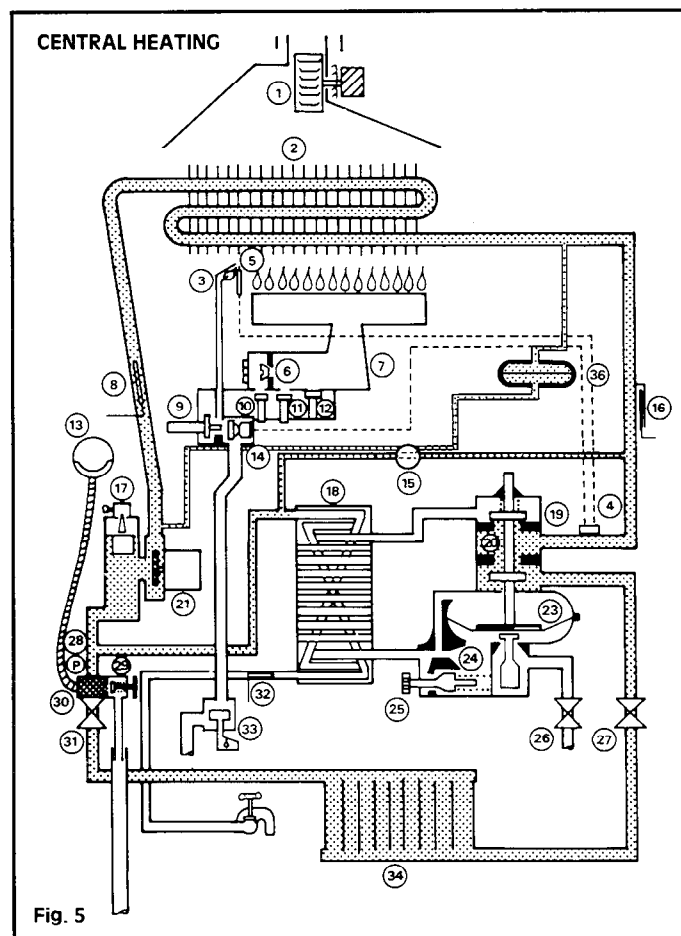

Fig. 5
1.6.2 Central Heating (see fig. 5)
1.6.4 Gas (see figs. 5 and 6)